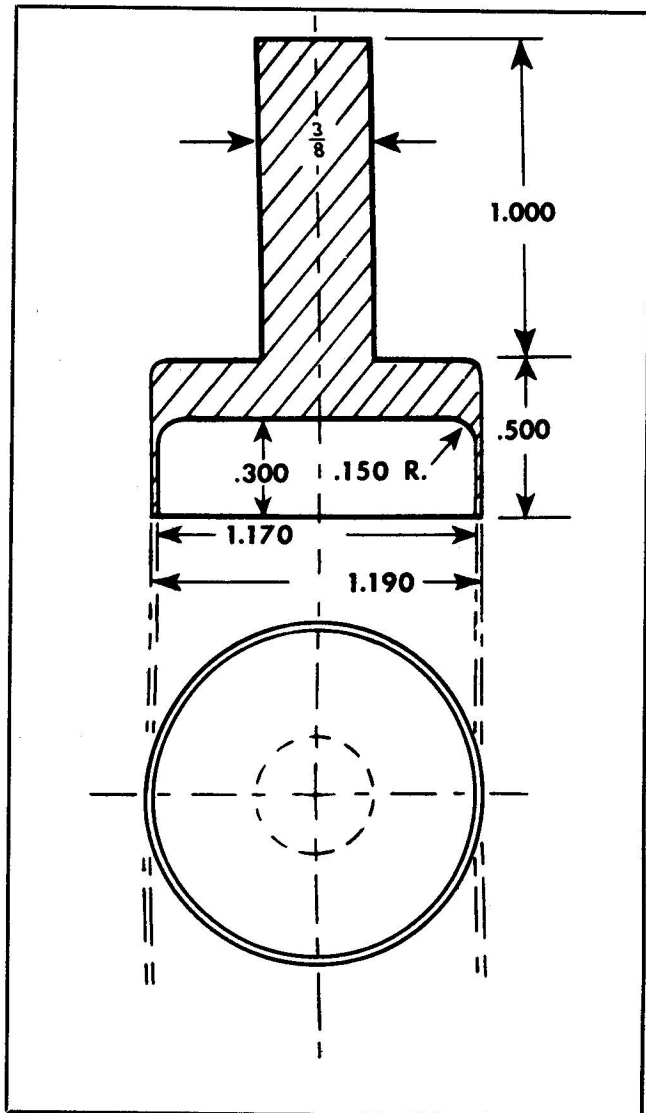

Figure 33 — Float Protection Cap
(2) Push the float ears through their respective holes in the card and bend them over, being careful to bend straight in toward the center of the float. Guard against bending the float by placing over the float top the float protection cap. (See figure 33.)
b. PROTECTION CAP—(See figure 33.) The protection cap is used to protect the float against damage while being disassembled and reassembled to the card.